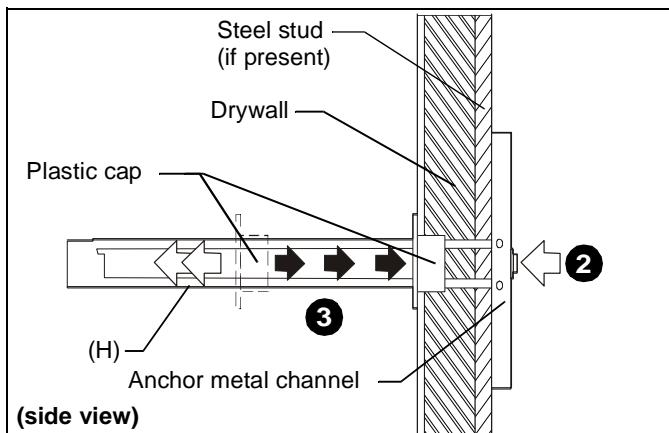

Figure 28
2. Holding plastic straps on anchor (H), pull anchor away from wall until channel rests flush behind wall making sure anchor channel is positioned vertically on drywall, or steel stud (if present). (See Figure 28)
3. Slide plastic cap on anchor (H) towards wall until flange of cap is flush with wall. (See Figure 28)